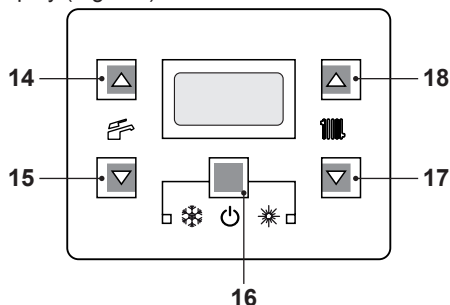

Fig. 7.4
- Press the 16 key for 2 seconds until both  and  symbols appear on the display (Fig. 7.4).
- Switch off the boiler by pressing the 16 (Fig. 7.4) key for 2 seconds until the  symbol appears on the LCD display (Fig. 7.3).